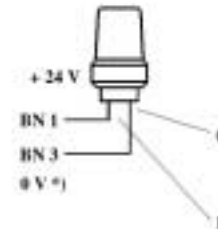

Figure 32 Connection diagram, muting indicator lamp: device plug on PAC Muting module
- When connecting the LED indicator lamp pay attention to the polarity (see Figure 32).